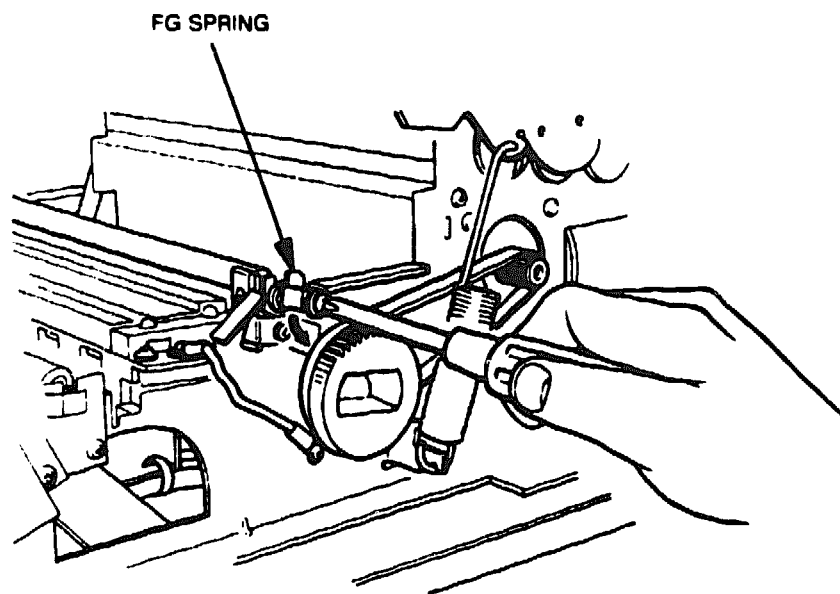

Figure 6-40 FG Spring
3. Loosen the FG spring screw on the lower side frame (R) and move the FG clip away from the right end of the roller shaft (see Figure 6-40).